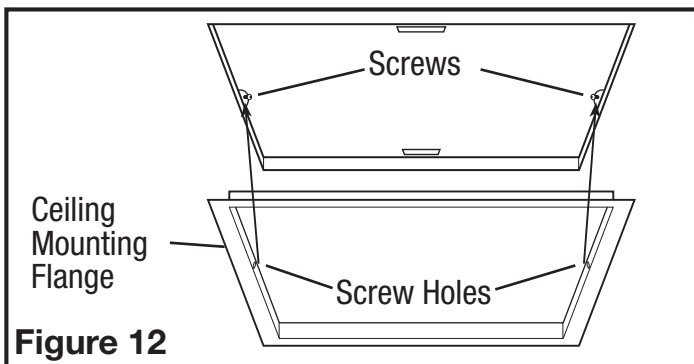

Figure 12
NOTE: If the mounting flange is installed on the fan housing, remove the two screws that connect the ceiling mounting flange to the housing and set aside (Figure 12).
4. Install the ceiling mounting flange to cover any gaps which exist between the housing and the finished ceiling. Remove the two screws that connect the ceiling mounting flange to the housing. Put sealant (not provided) on inside edge of the ceiling mounting flange to ensure that the flange is sealed to the ceiling. Line up the screw holes in the ceiling mounting flange with the screw holes on the inside of the housing and press flange in place so it is tight against the ceiling. Reinstall ceiling flange mounting screws inside the housing (**Figure 12**).